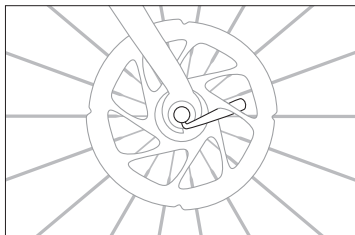

Figure 1.7: An incorrectly positioned quick release lever can interfere with the brake system.
- If your wheel is equipped with a quick-release, make sure the lever is properly closed and positioned (in-line with the chainstay or front fork) and does not interfere with the spokes or disc brake system as the wheel rotates (Figure 1.7).